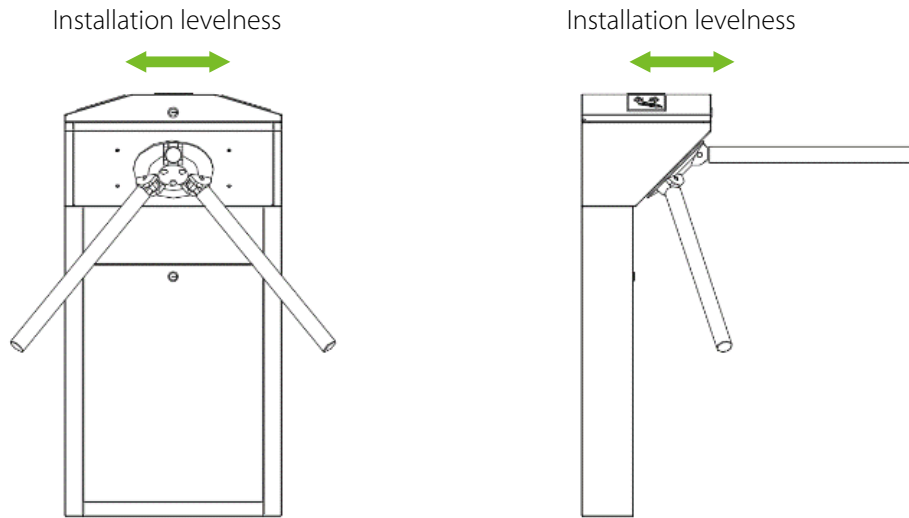

Figure 3-5
3. Install the turnstile on the mounting plate and tighten the screws. Apply screw securing glue before using and putting gaskets on the screws to adjust the direction of the turnstile. If the tripod turnstile is not levelled, please move gaskets to adjust, as shown in Figure 3-5.